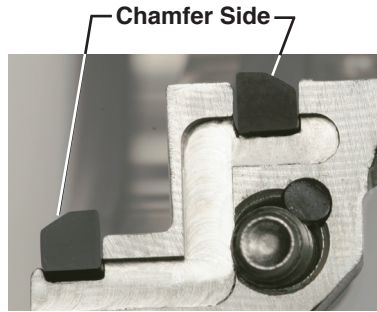

Figure 5
- 4.2 The rotating face gasket and sleeve gasket are all chamfered on one side and must be orientated as shown in Figure 5.